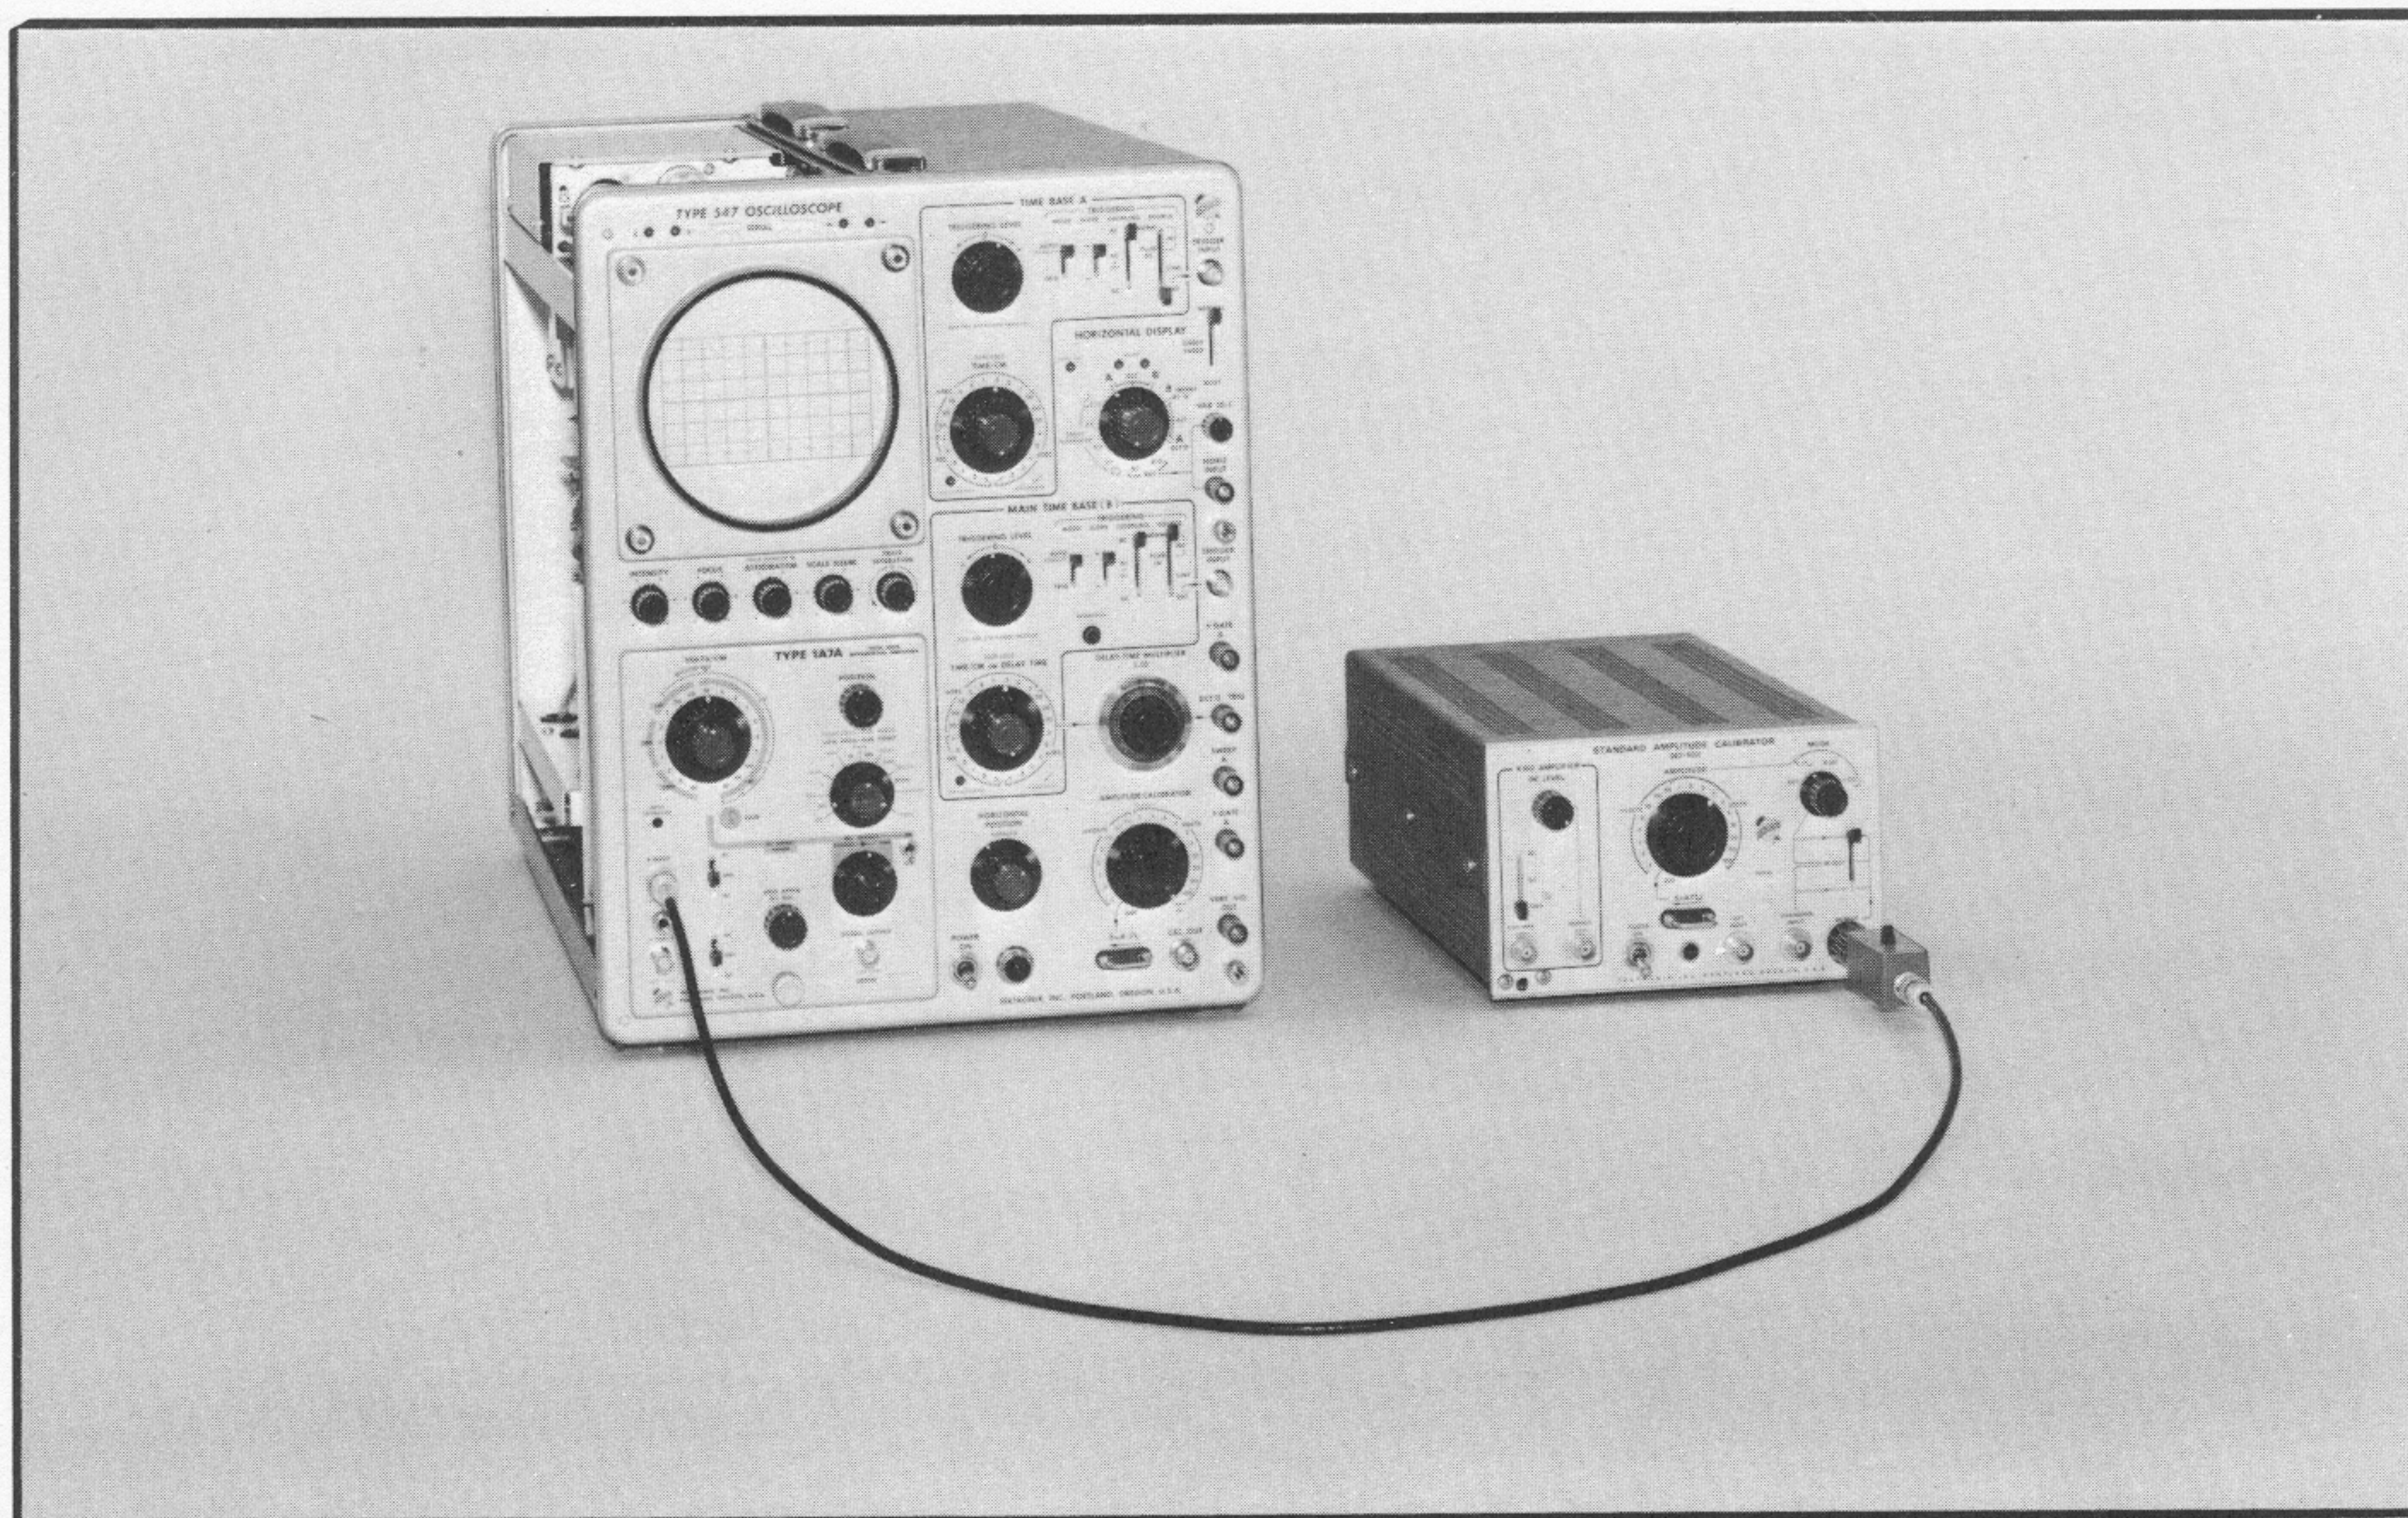

Fig. 5-5. Test equipment setup for steps 4 through 6.
- a. Test equipment setup is shown in Fig. 5-5.